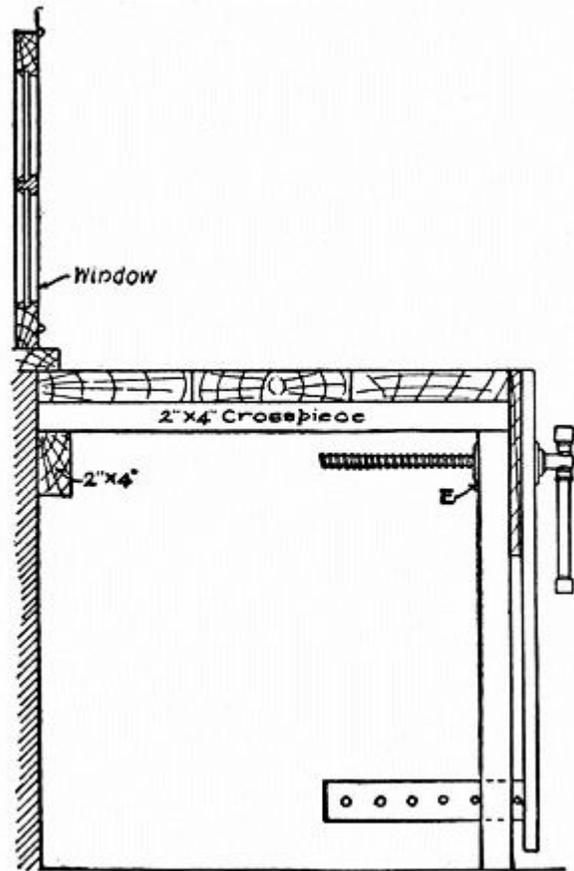
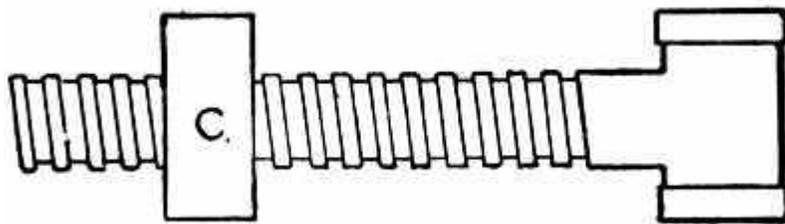

FIG. 1.—End View of Work-bench.
FIG. 3.—Wooden Bench-screw.
pieces of two-by-four, twenty-eight inches long, for the legs, and two pieces, thirty inches long, for crosspieces. Spike the crosspieces on to the legs and on to the piece nailed to the wall, as shown in Fig. 1. Cut three ten-inch planks, six feet long, and spike them to the crosspieces so that they project twelve inches over the ends, but are flush with the framework in front. Then cut a ten-inch board, six feet long, for an apron, and, after cutting the ends as shown in Fig. 4, nail it across the front of the bench.
**The Vise** is simple to make. Figures 1, 4, and 5 show the details for this.
the bench-leg and screwed at *E* (Fig. 1), while the portion *D* is to be screwed to the jaw. If a wooden screw is used, the portion *C* in the drawing (Fig. 3) is nailed to the inside of the bench-leg.